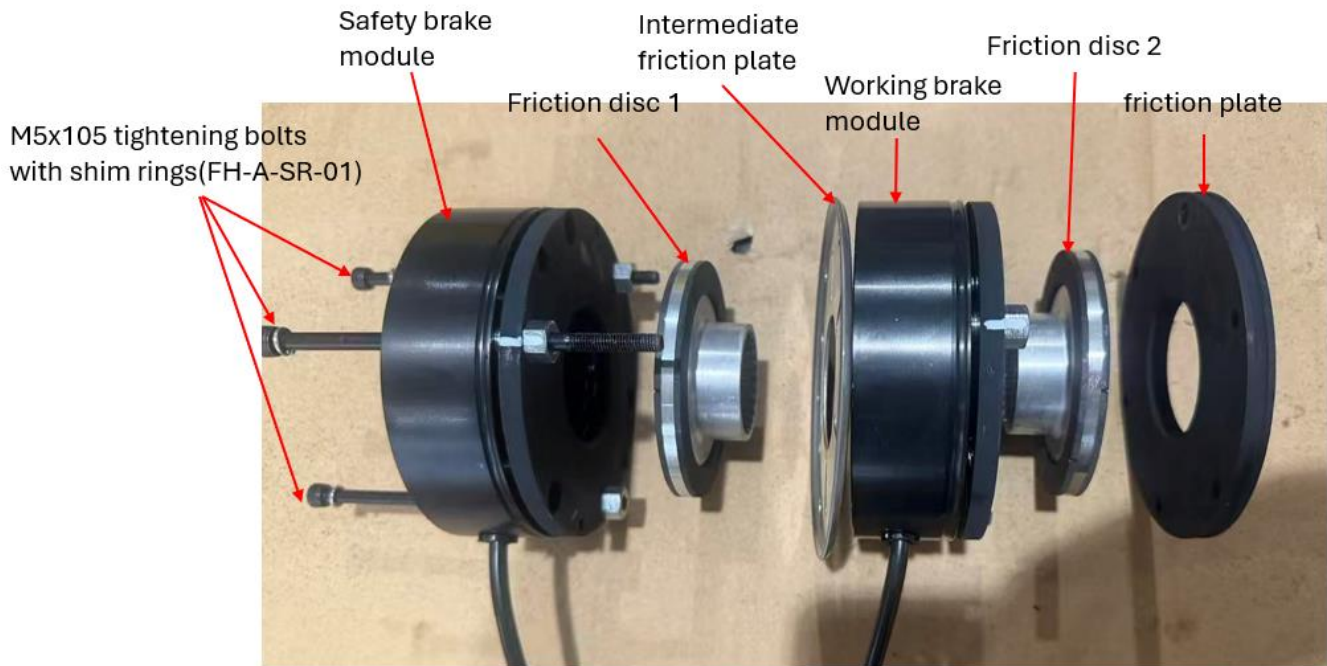

Figure 16 Dual-Brake assembly sequence
- The brake replacement: Please install the dual electromagnetic brake assembly exactly as shown in the figure 16. Pay strict attention to the orientation of the two friction discs to ensure they are not installed backward. Additionally, verify the correct positioning and alignment of the friction surfaces on the intermediate friction plate, and ensure no components are left out during reassembly.